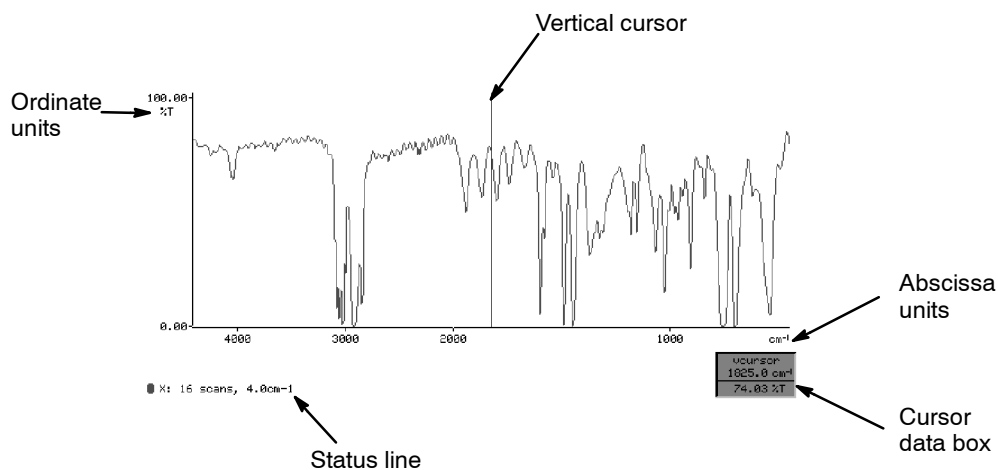

Figure 1-10 The Graphics Display
Usually, the display area contains graphics, consisting of one or more spectra (or interferograms), as shown in Figure 1-10. Graphics are always displayed when the Spectrum RXI is first switched on.
- *Abscissa and ordinate*: Every time the graphics display reappears, its ordinate scale (on the vertical axis, in units of %T or A) and abscissa range (on the horizontal axis, in units of cm^{-1} for spectra) are set just as they were when graphics were last displayed. For example, if you expand the spectrum in Figure 1-10 so that only the range from 3000 to 1000 cm^{-1} is on the screen, then switch the graphics off, the next time the graphics appear *for any reason*, the range is still 3000 to 1000 cm^{-1} .
- *Status line*: The spectra displayed on the graphics screen are stored in the Spectrum RXI in four memory locations, called *spectrum regions*. These spectrum regions are called X, Y, Z, and Backg. The status line in Figure 1-10 reports that the spectrum in region X is displayed, and gives the number of scans and the resolution at which the spectrum was collected. The colored mark to the left of the region name identifies the color of the related spectrum on the display; this is particularly important when you have more than one spectrum displayed.
- *Scale change*: Notice that the distance from 3000 to 2000 cm^{-1} in Figure 1-10 is half the distance from 2000 to 1000 cm^{-1} . This is because the optional 2:1 scale change at 2000 cm^{-1} is switched on. To switch the scale change on and off, see page 3-12.